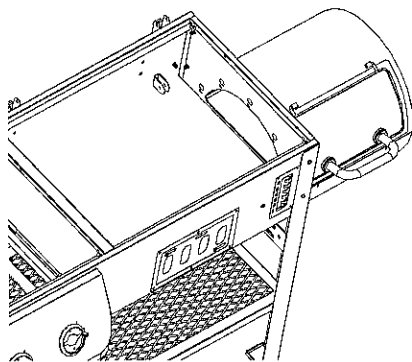

Fig.15C
Refer to Fig.15C and fasten (1) M6x15 KEPS bolt through the Bracket and into the Firebox to secure it in place. Now tighten the (5) bolts in the Keyhole slots which will secure the Firebox to the Grill.